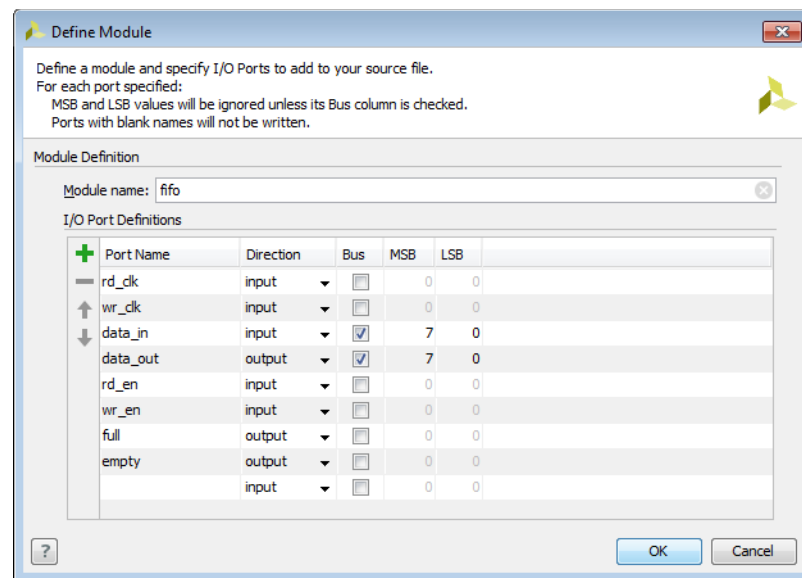

Figure 3-5: Define Modules Dialog Box
7. In the Define Modules dialog box (Figure 3-5), you can define the module or entity for the Verilog, Verilog Header, SystemVerilog, or VHDL code using the following options: